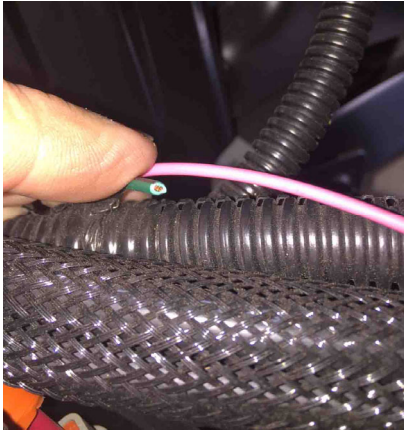

Fig. 15
2. Cut away the green/black wire near the wiring loom. (Fig. 15)